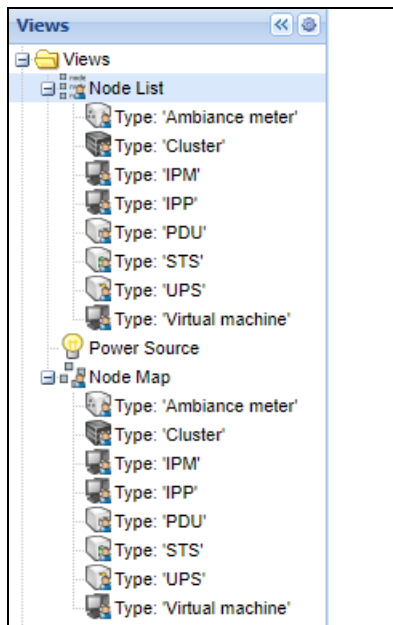

Figure 66. Views > Node List Example Hierarchy
1. Select a view in the **Views > Node List**, such as Category: "Devices" or Location "HPO Finland" (see Figure 66).
1. Select a view in the **Views > Node List**, such as “Location: Computer Room” (see Figure 66).